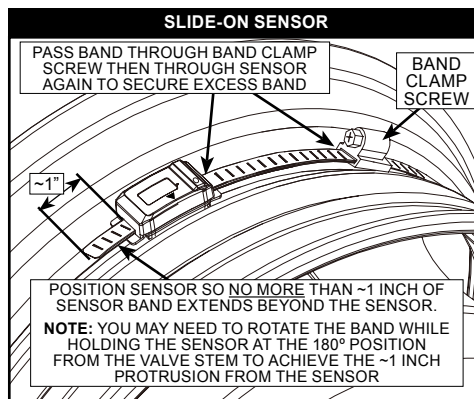

Figure 4: Slide-on internal sensor final install
4. Put the sensor and band clamp in the **center position** of the wheel hub and pass the band through the band clamp screw, then again through the belt-mounted sensor. See Figure 4.
- 2) On **SLIDE-ON SENSOR** position the sensor to secure the tail. See Figure 4.